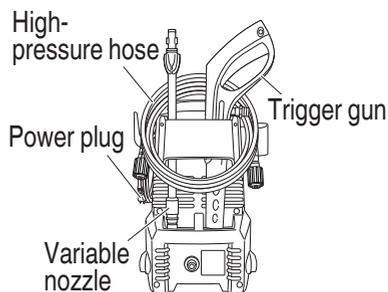

Fig. 21
5. Tidying up and storing the washer after use (Fig. 21)
The accessories can be stored inside the washer as shown in Fig. 21 when not in use and when being carried around.